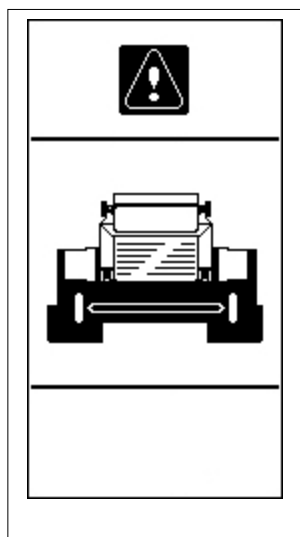

Figure 23 - Safety light curtains interrupted
- Take some dough from the rack as illustrated in par. 3.7.3and introduce it vertically into the loading hopper, making sure that the top section of the mash does not protrude from the hopper. If the display shows the image in Figure 23 , it means that the dough protrudes from the hopper and it is therefore necessary to lower the level, removing some of it.